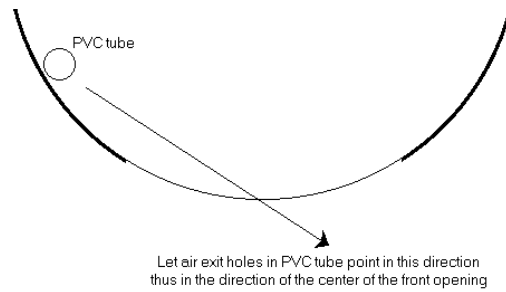

Figure 18: Proper direction for the air holes with respect to generator front opening.
Rotate the PVC tube so that the air exit holes point to the generator's front opening, as in figure 18, and hot-glue the tube in straight upward position to the lower plexiglass disk, so it won't
- Air exit holes in PVC tube don't point in the direction of the front opening (see fig. 18);